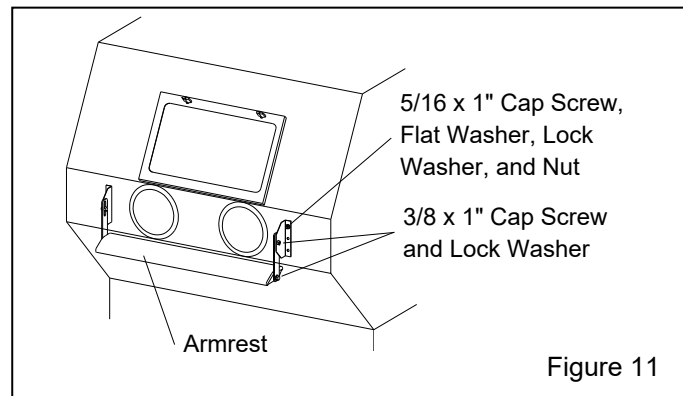

Figure 11
3.4.1 Assemble the armrest and mounting brackets, as shown in Figure 11.